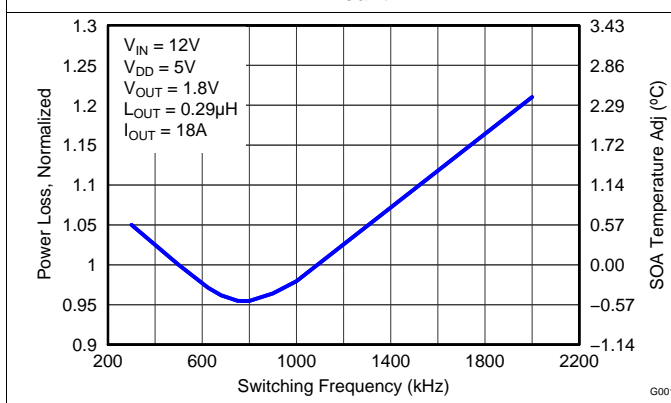

Figure 5. Normalized Power Loss vs Frequency
- Normalized Power Loss for switching frequency ≈ 1.09 (Figure 5)
- SOA adjustment for switching frequency $\approx 1.1^{\circ}\text{C}$ (Figure 5)